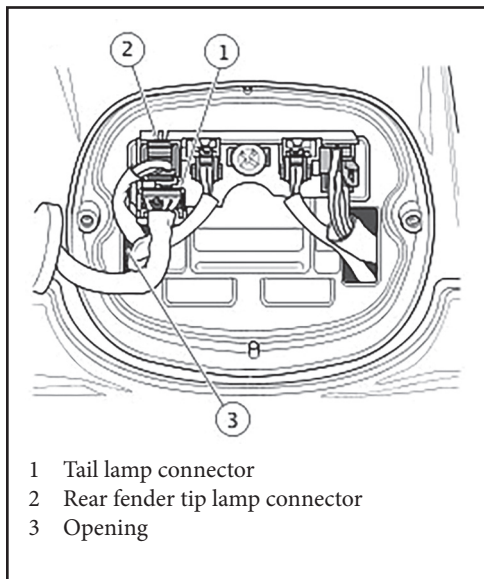

Figure 2. Depress Button to Release Socket
2. See Figure 2. Disconnect tail lamp connector (1) and set tail lamp aside.
3. Disconnect rear fender tip lamp connector (2)
4. Feed harness through opening (3) in chrome base to inboard side of rear fender.
8. Route the tip lamp wire harness through the clips and into the tail lamp opening and plug the harness connector into the tip lamp connector (2).
9. Install tail lamp connector to pin housing (1).